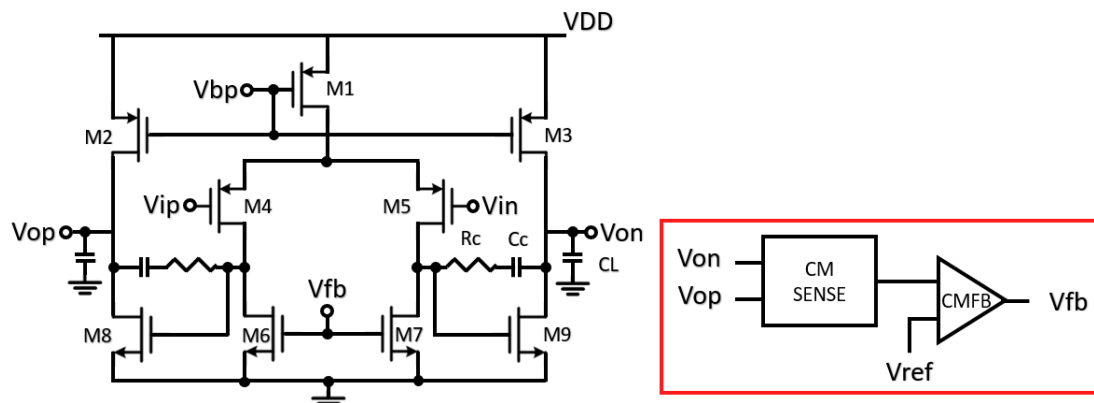

Fig. 1. 2-Stage Opamp with Common Mode Feedback.
In this homework, you are asked to build the circuit shown in Fig. 1, and the specifications you need to meet are listed in Table. 1. Please make sure your circuit meets all specs in TT, FF, and SS corners.
2. From fig. 1, we can observe a common-mode feedback loop in this circuit. Please analyze the loop by hand, the content must include the breakdown of the entire loop gain and also the distribution of poles.